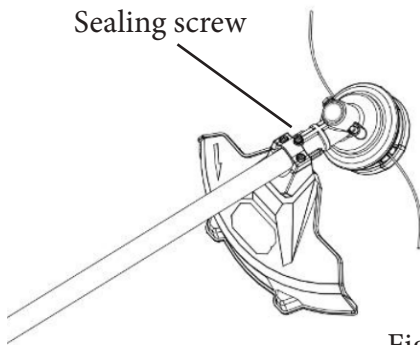

Fig.23
- a) Hold the string trimmer on its side so that the sealing screw is facing upwards (Fig. 23).